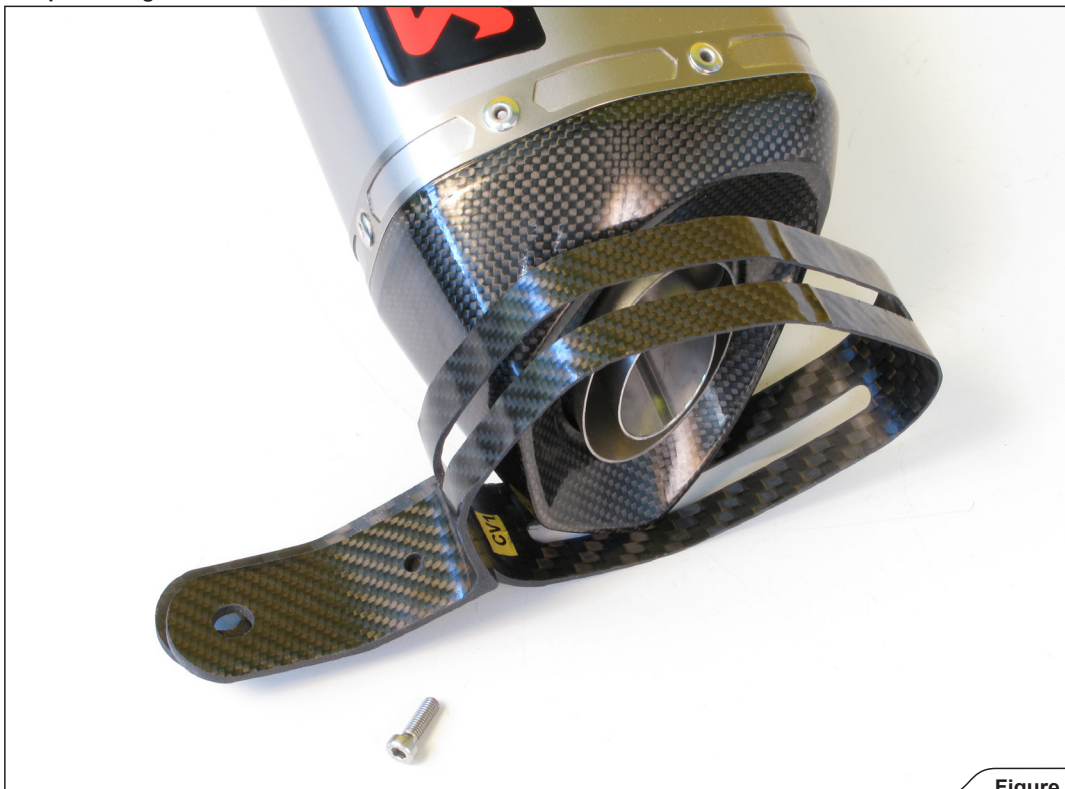

Figure 9
1. Correctly position the carbon-fiber clamp and slide it onto the muffler - bear in mind the **left offset** of the carbon fiber clamp viewed from the rear (**Figure 9**).